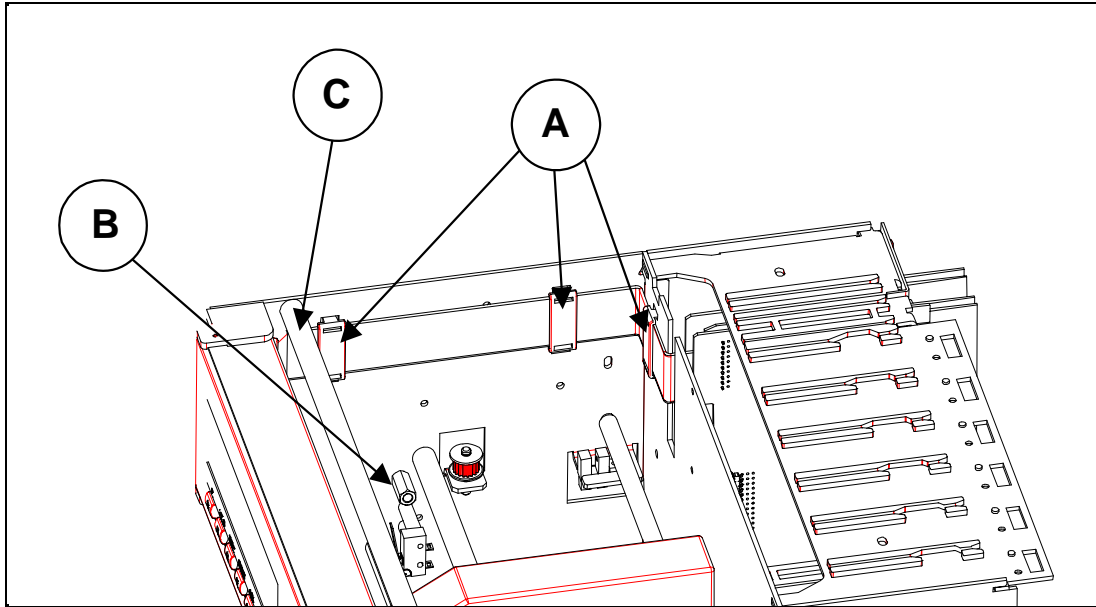

Figure 2-9
19. Remove the 3 flat cable clips. (See ref. A, Figure 2-9)
20. Remove the ink ribbon carriage stop (see ref. B standoff, Figure 2-9). Unscrew the fixing screw.
21. Remove the reinforcing bar (see ref. C, Figure 2-9) by unscrewing the 2 screws.
26. Reinstall reinforcing bar (see ref. C, Figure 2-9)